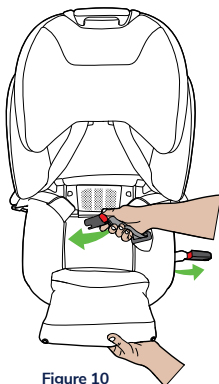

Figure 10
Step 1. Thread the ISOGO connectors through each belt path opening so the belt sits in the installation path (Figure 10 & 11).